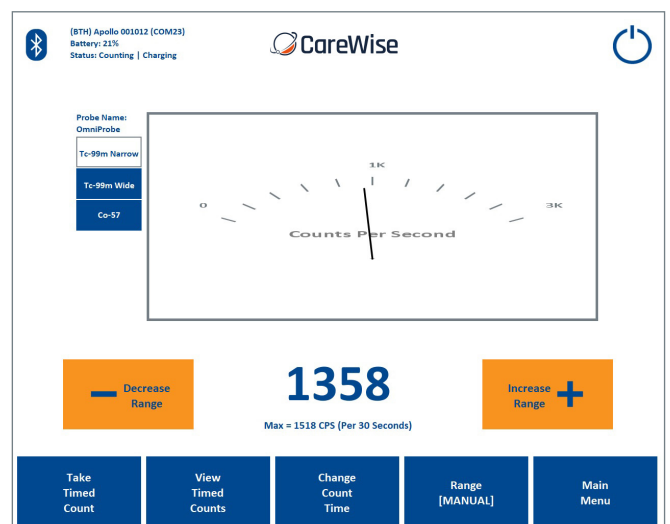

Figure 5 – Count Screen with Analog Meter
(1) Rate Meter Display
- There are three versions of the RATE METER DISPLAY. The default, shown in Figure 4, uses a wedge-shaped indicator to show the amount of radiation detected. The other two versions of the RATE METER DISPLAY are an analog indicator and a histogram of counts per second over time. These are shown in Figures 5 and 6 respectively.
- (2) **Counts per Second Display** – This numerical display indicates the number of photons detected by the gamma probe per second. Underneath the varying measured count rate value, the maximum number of counts detected (in cps) is displayed; this value is updated every 30 seconds. Tapping this area allows you to change this to 5,10,15,20 or 25 seconds. When a new maximum count rate is reached during a measurement, the Counts per Second numerals will change from blue to red temporarily.
- (3) **Range Controllers** – The DECREASE RANGE and INCREASE RANGE controllers are used to adjust the range of counts per second displayed. Ranges of 0-100, 0-300, 0-600, 0-1000, 0-3000, 0-6000, 0-10000, 0-30000, 0-60000, 0-100000 are available.
- (4) **Take Timed Count Button** – Pressing this button begins a timed count for the current duration. While timed counts are underway, they are viewed on the TAKE TIMED COUNTS SCREEN. Details are in 2.4-2. The Timed Count operation may also be started by pressing the Timed Count 'Egg Timer' button on the Apollo Handset keypad or by pressing the foot pedal accessory.
- (5) **View Timed Counts Button** – Pressing this button allows the user to view any data for timed counts already taken. Details are in 2.4-3.
- (6) **Change Count Time Button** – Pressing this button allows the user to change the duration of timed counts. Details are in 2.4-4.